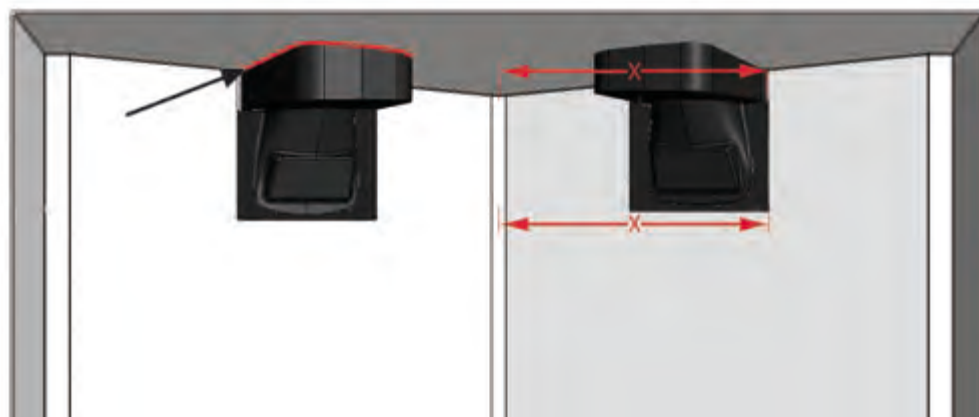

Figure 16. Cutting the collar (twin installation)
In twin installations, this means cutting according to figure 16 when the transom is not vertical.
1. Fit the installation insert negative in the boat mould so that the intake duct is parallel with the keel (figure 16).